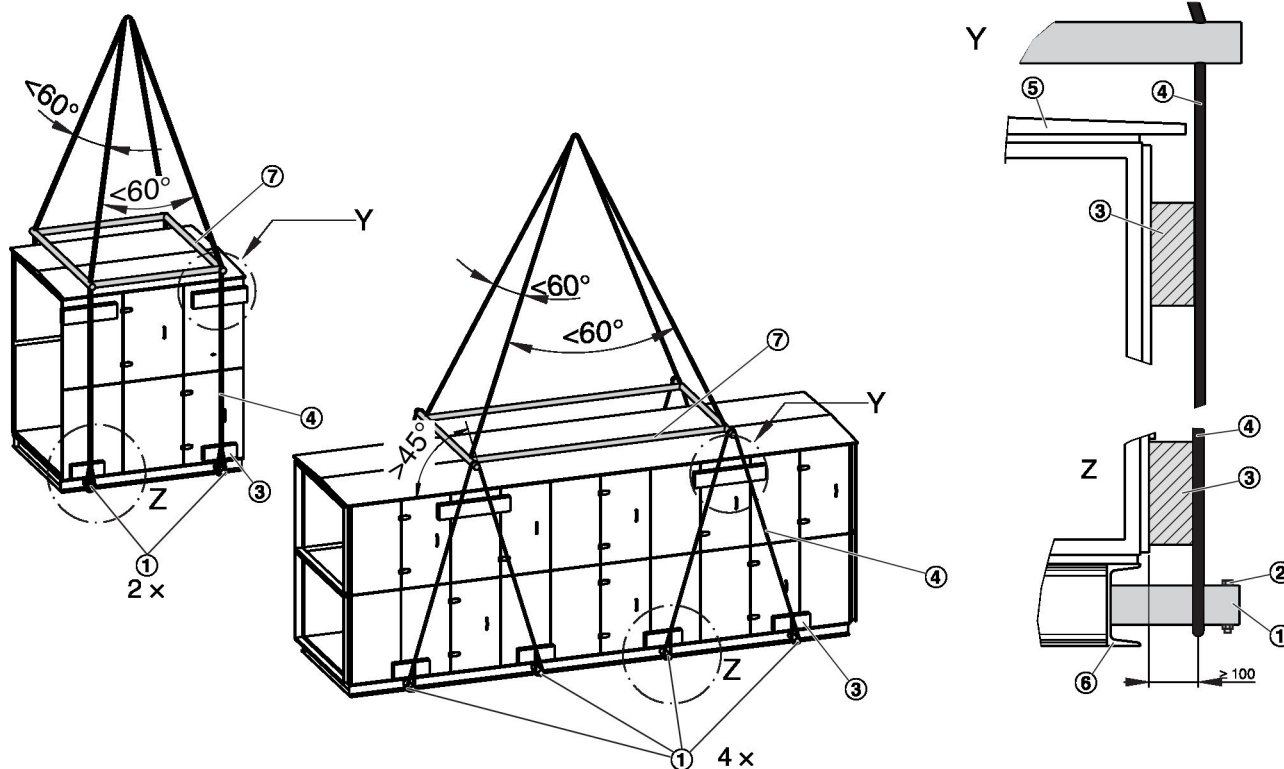

Fig. 5: Slings with two or four transport tubes
The number of drilled holes in the base frame (Fig. 5 /6) indicates the number of transport tubes (Fig. 5 /1) to be used.
- Select the slings based on the number of transport tubes used, Fig. 5
- 1 ▶ Push transport tubes (Fig. 5 /1) into the drilled holes in the base frame.
Secure the transport tubes with screws (Fig. 5 /2).
- 2 ▶ Place the slings (Fig. 5 /4) around the ends of the transport tubes.
Position slings between the base frame (Fig. 5 /6) and the screws (Fig. 5 /2).
Protect the edges with wooden spacers (Fig. 5 /3). For devices with a roof (Fig. 5 /5), select wooden spacers so that the distance between the slings and the device is at least 100 mm.
Spread the slings near the roof using a suitable device (Fig. 5 /7) e. g. a spreader beam.